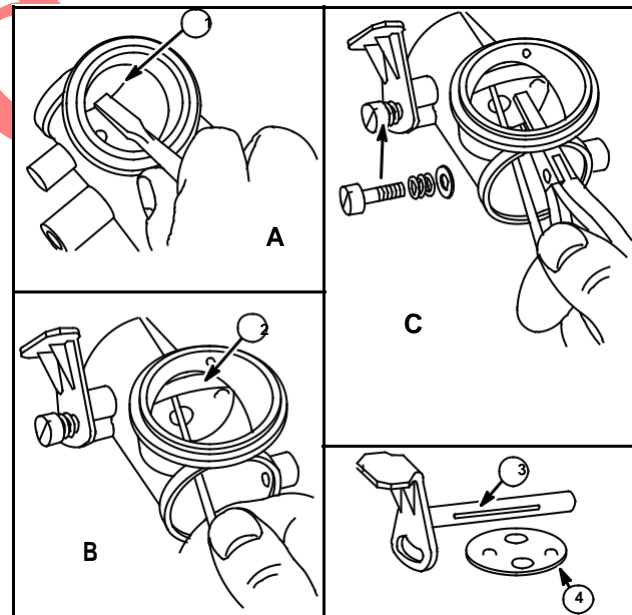

Fig. 134
Some two piece Flo-Jets have a welch plug and it should be removed only if choke shaft or choke plate (5) is going to be removed. Some carburetors have a nylon choke shaft. Remove as shown, Fig. 134 – A. Pry out welch plug. B. Insert sharp tool under choke shaft (2). C. Pull out choke plate (4) with pliers, remove screw, spring, and washer, pull out nylon choke shaft (3).